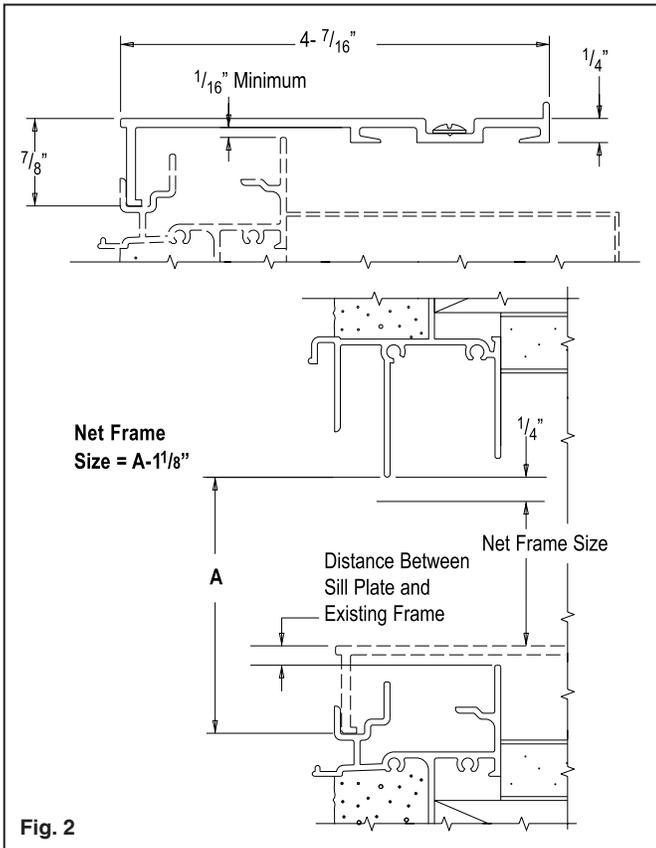

Fig. 2
A. Measure the opening in your existing window. The narrowest measurements in your window opening, excluding the fixed and sash panels, will be the "daylight opening". Measure existing daylight opening at the ends and the center. See **Fig. 1**. Deduct 1/4" from both the width and height of the daylight opening dimensions. A deduction for the distance between the top of the Sill Plate and the tallest wall on the existing sill is also needed to determine the "net frame size". See **Fig. 2**. Consider the best location for installing the Sill Plate in the existing sill and then take your measurements.